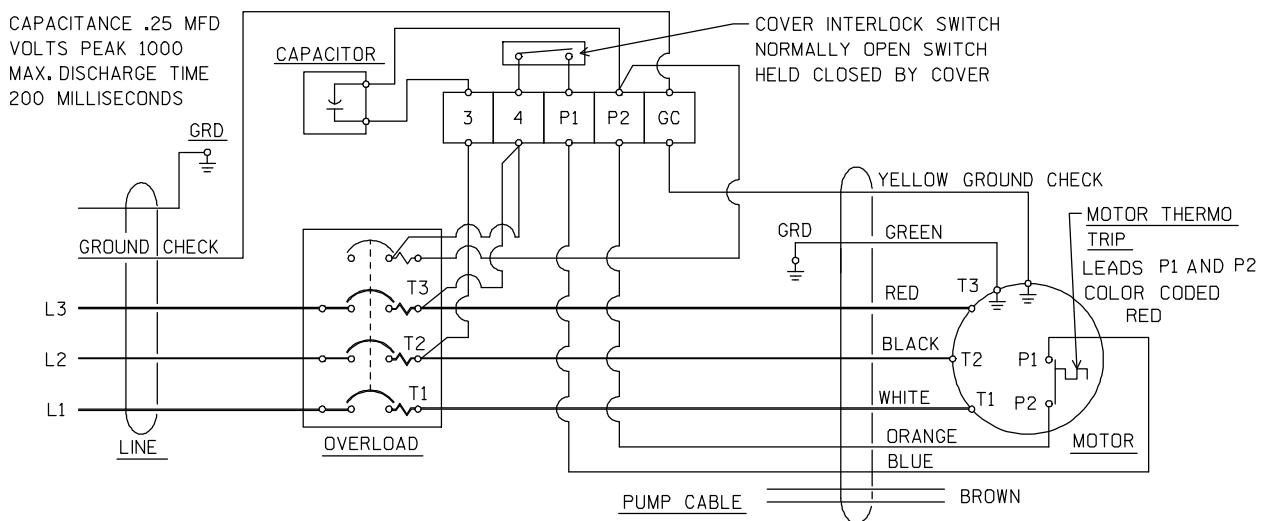

Figure C-6. Pump Power Cable Connection Diagram (All Models)
Install a new O-ring (36) on the terminal housing. Refer to Figure C-6 and connect the correct power cable leads to the stator leads with the connectors (40). **Be sure** the orange and blue cable leads are connected to the red coded (thermal overload) stator leads. After installing the connectors, wrap each connection with underwater tape (G-R part number 18666-068) to seal it and prevent the connector from working loose. Start the tape between the connectors and double back, then stretch the tape and wrap it around all of the leads and connectors.